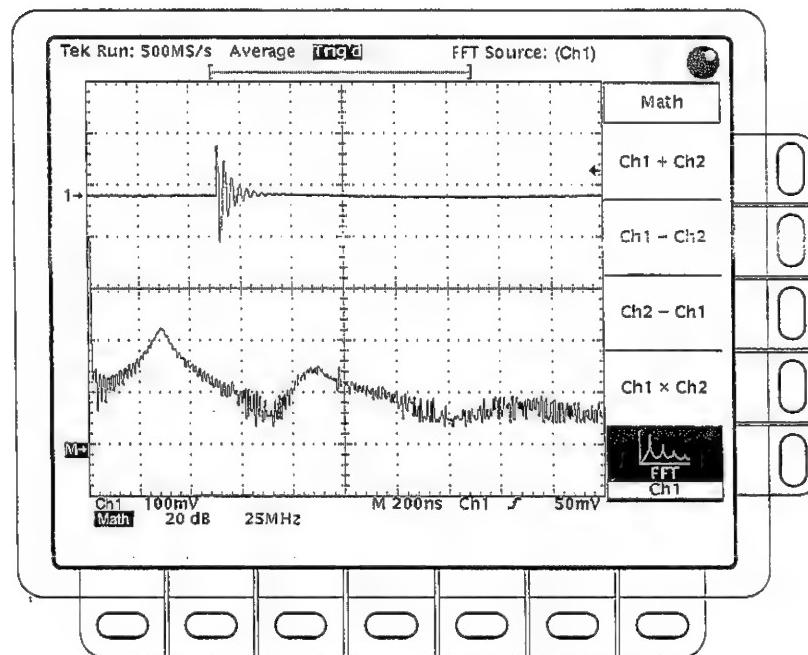

Figure 3-22: Define FFT waveform menu
4. Press the FFT side-menu button to select the FFT waveform. To select a different source channel, press the FFT side-menu button repeatedly. See Figure 3-22.